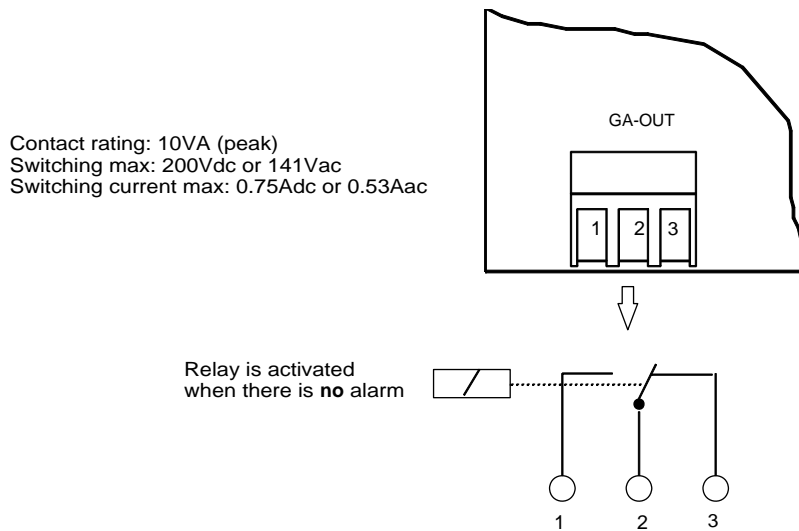

Fig. 20-4 General Alarm Connector (MCCB)
1. Connect an alarm device to the GA-OUT connector on the MCCB (see Figure 20-4). When the alarm device needs to make contact, connect the alarm device between contacts 1 and 2. When the alarm device needs to break contact, connect the alarm device between contacts 2 and 3.